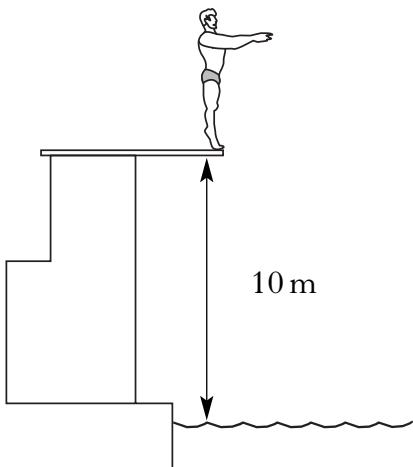

Figure Q3
3. Figure Q3 shows a person with a mass of 75 kg standing on a platform 10 m above a pool.